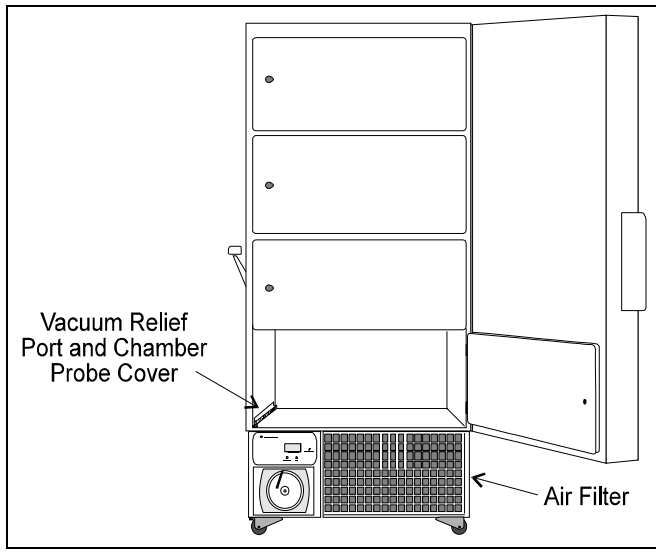

Figure 4-1
4.3 Cleaning the Air Filter (Refer to Figure 4-1)
4.6 Cleaning the Vacuum Relief Port (Figures 4-1 and 4-2)